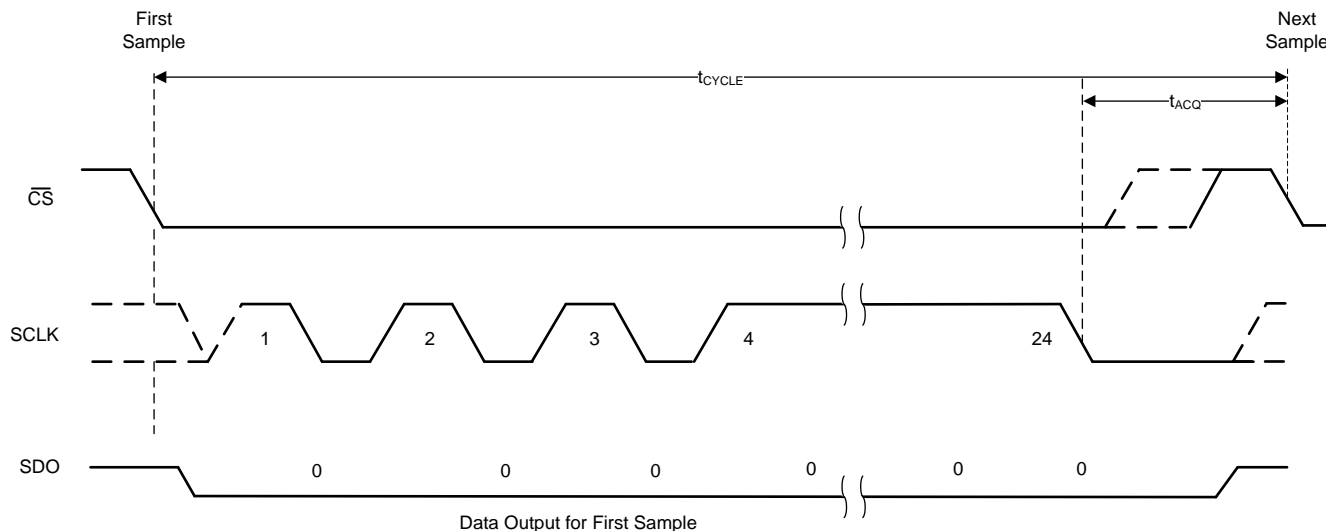

Figure 41. Timing for Offset Calibration on Power-Up
The host controller must provide a serial transfer frame as described in Figure 41 or in Figure 42 to enter OFFCAL state.
On power-up, the host must provide 24 SCLKs in the first serial transfer to enter the OFFCAL state. The device provides 0's on SDO during offset calibration. For acquisition of the next sample, a minimum time of  $t_{ACQ}$  must be provided. If the host controller enters the OFFCAL state, but pulls the CS pin high before providing 24 SCLKs, then the offset calibration process is aborted and the device enters the ACQ state. Figure 41 and Table 2 provide the timing for offset calibration on power-up.
(1) In addition to the timing specifications of Figure 41 and Table 2, the timing specifications described in Figure 2 and the Timing Requirements table are also applicable for offset calibration on power-up.